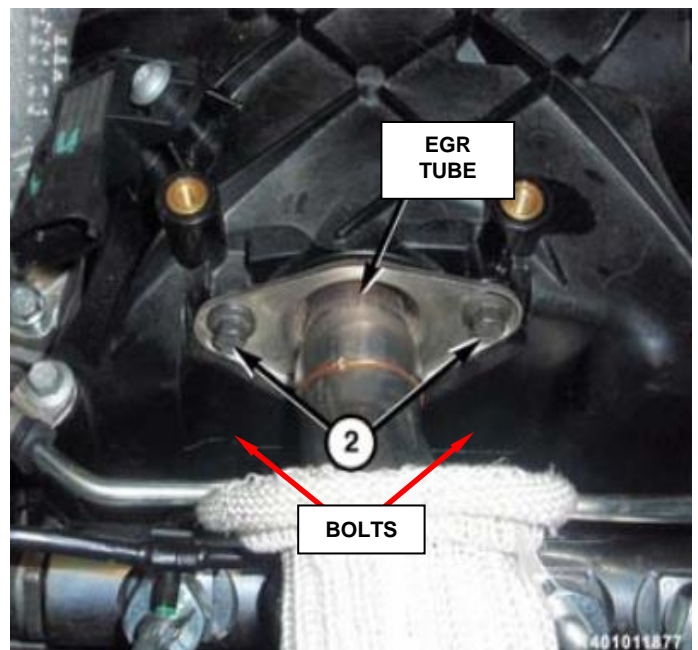

Figure 35 – EGR Tube Mounting
10. Remove the (2) bolts at the intake manifold and the EGR tube (Figure 35).